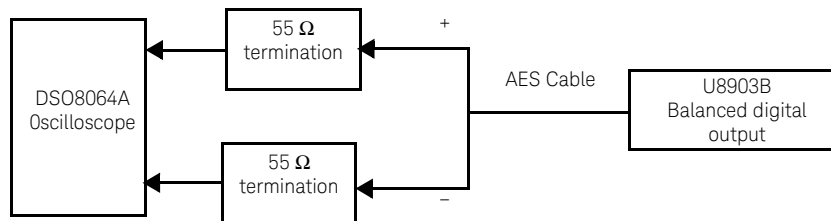

Figure 4-2 DSO8064A oscilloscope to U8903B balanced digital output for balanced output level accuracy verification
- 1 Connect the Keysight DSO8064A oscilloscope input channel 1 and 2 to the U8903B balanced digital output channel with the 55Ω termination using the XLR female to two BNC male AES cable with separated + and – output lines as shown in **Figure 4-2**.